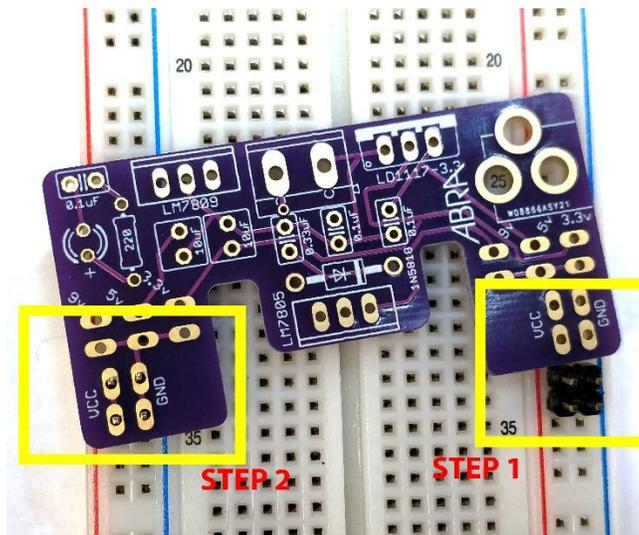

Figure S4
6. Place the bottom pins into a breadboard for support and solder the board from the top side. *(see figure S4 in the Table of Figures section)*